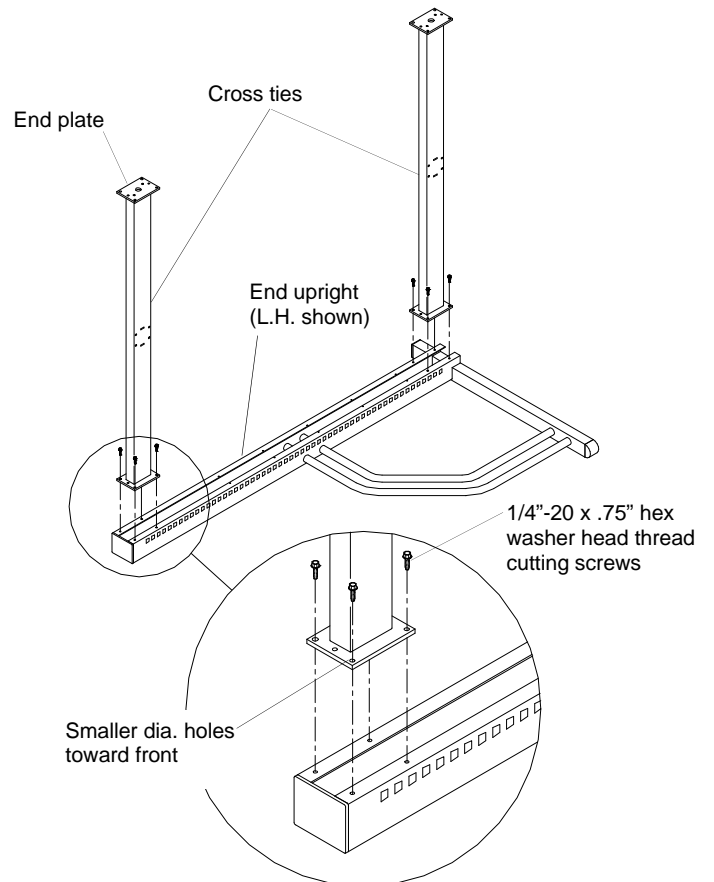

Figure 1
1. Lay one **End Upright** on the floor as shown in **figure 1**.